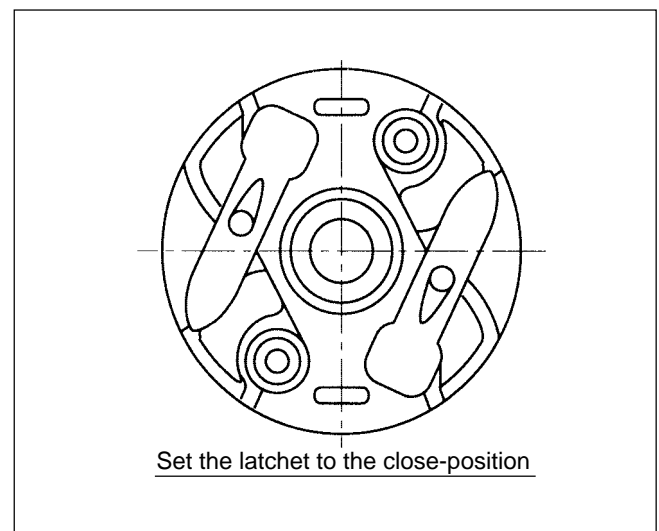

Fig. 10-4
(2) Assemble the component parts.
- 1: Set the latchet into the reel. (Fig.10-4)